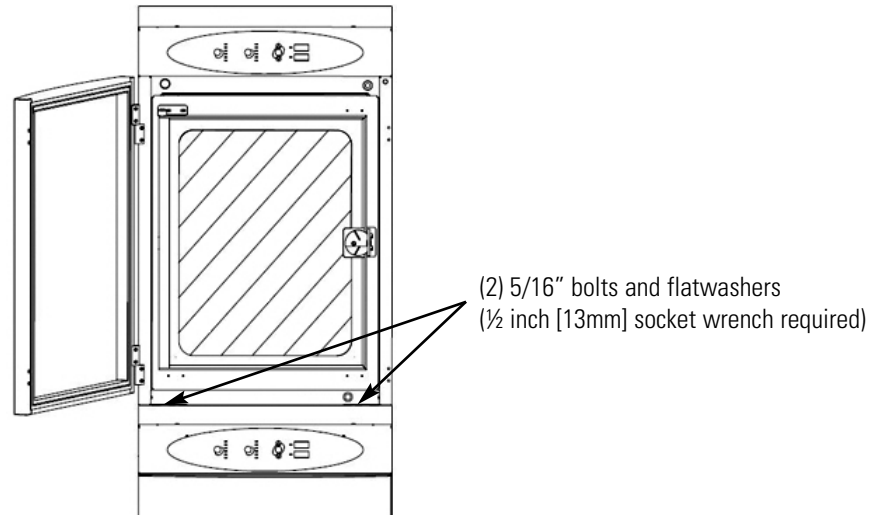

Figure 1-7. Align Slots and Bolts
5. Align the sides of the top unit with the bottom unit and slide the top unit forward until the slots in the base of the top unit align with the 5/16"-18 stacking bolts in the exterior top of the bottom unit. Refer to Figure 1-7.